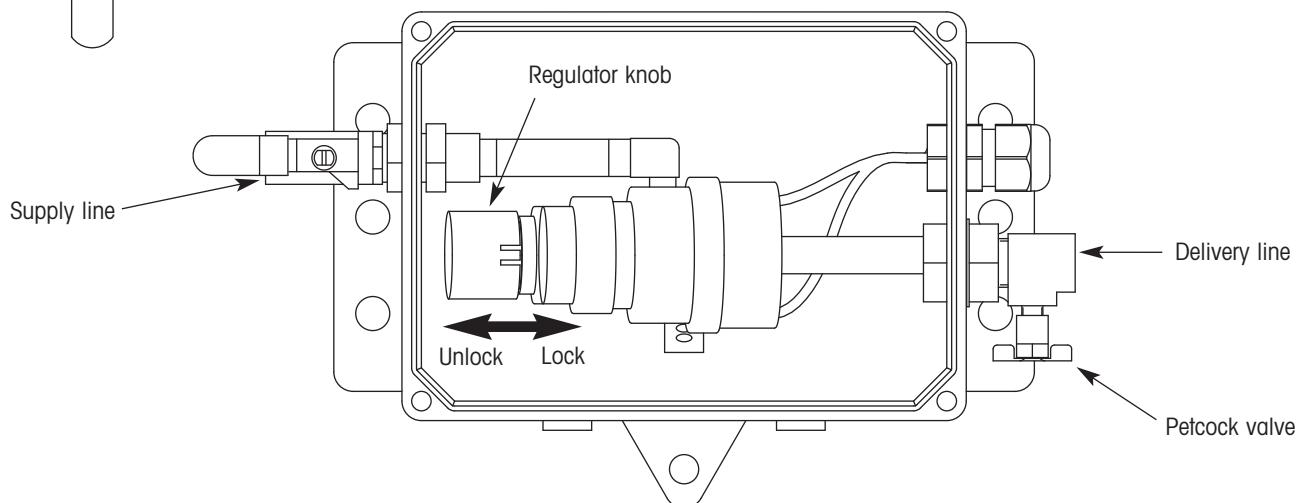

Figure 14. Setting target pressure with the IPCU
2. Ensure that the TIREMAAX CP shutoff valve is in the open position (figure 14).
2. Close the controller shutoff valve on the supply line (figure 14).
Delivery pressure is regulated by rotating the regulator knob either clockwise or counterclockwise (as viewed from the end of the knob). Before the knob can be rotated, it must be unlocked. To unlock the regulator knob, pull it away from the regulator body (figure 14). An audible “click” will be heard.
9. Close the controller shutoff valve on the supply line (figure 14).
14. Lock the regulator knob by pushing it in toward the regulator body (figure 14). An audible "click" will be heard.